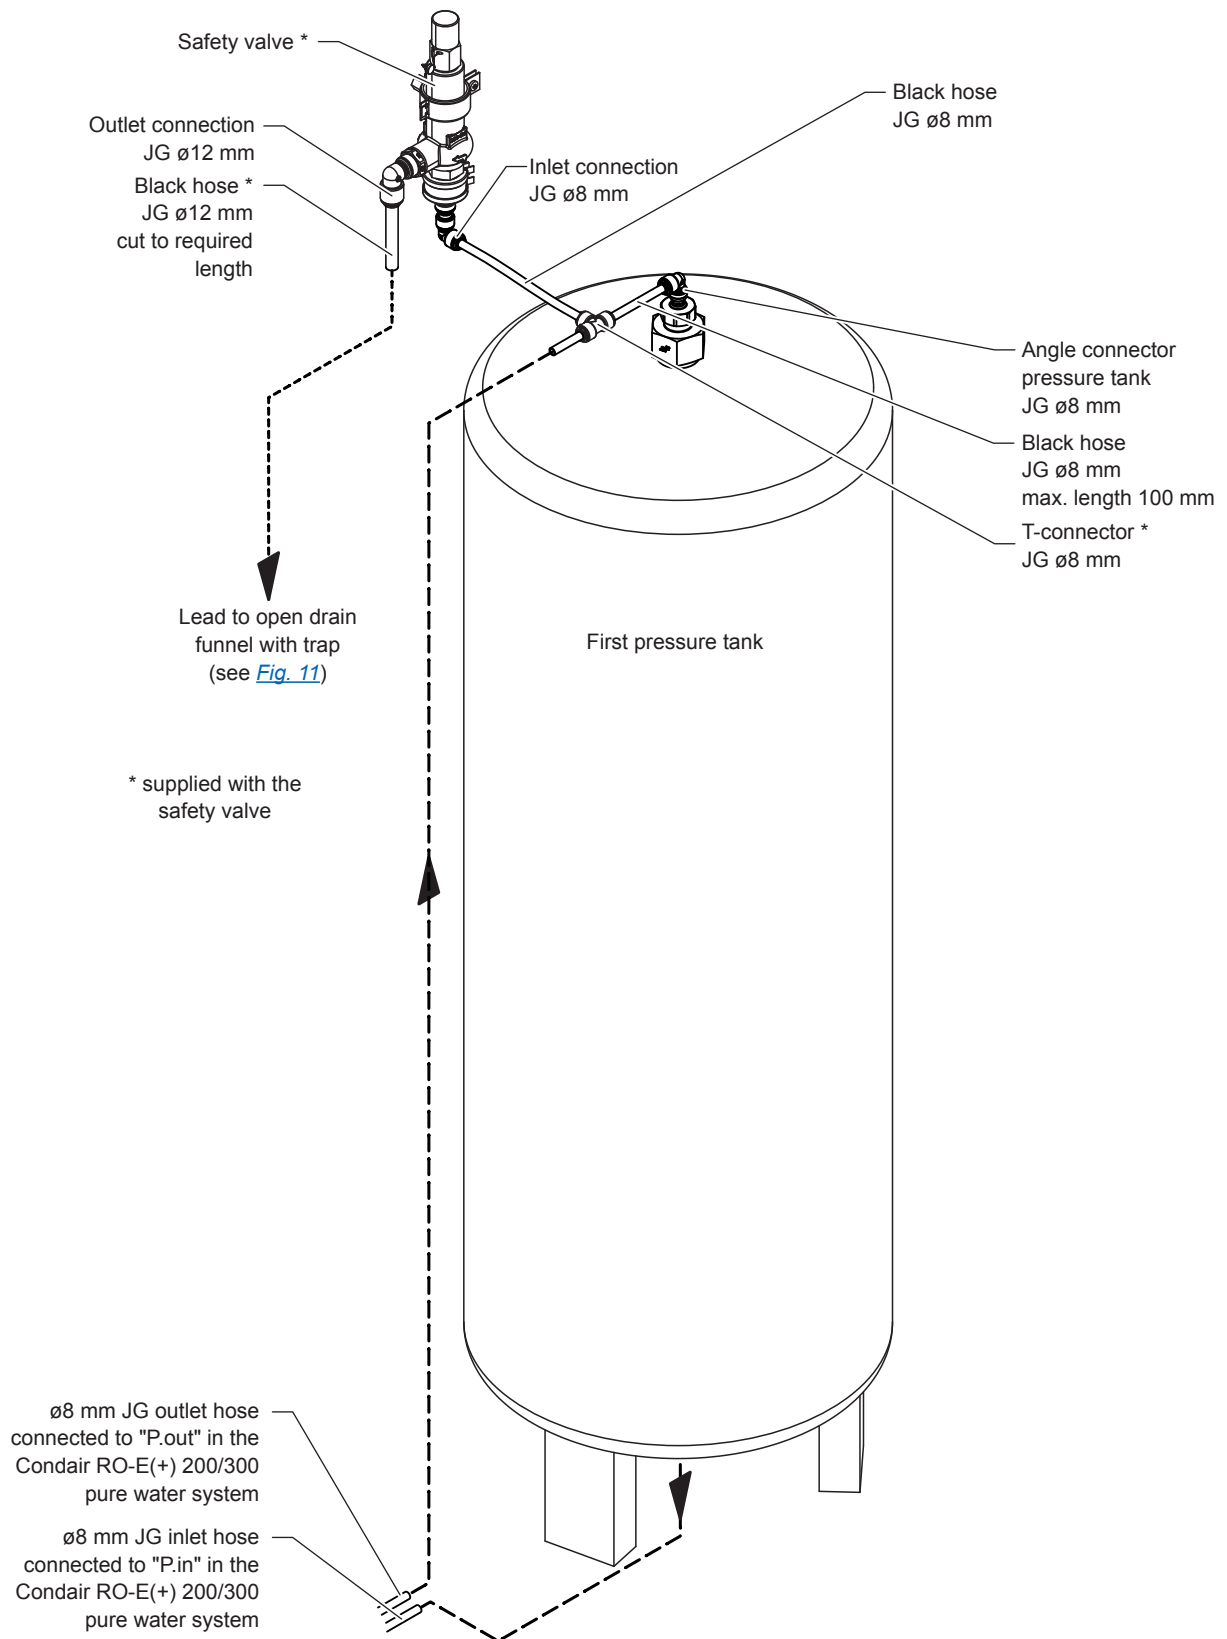

Fig. 17: Connecting the pressure tank safety valve to the Condair RO-E(+) 200/300 pure water systems
2. Connect the open hose ends of the cut hose to the ø8 mm JG T-connector as shown in Fig. 17.